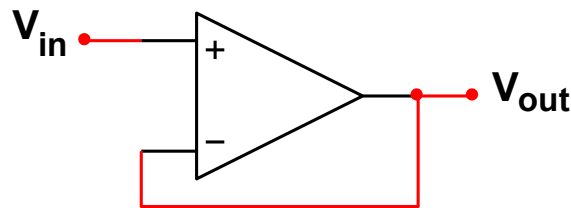

Figure 5.1 – Buffer (Current Amplifier)
1. **Build the Buffer (Current Amplifier)** according to your prelab design and **Figure 5.1**.